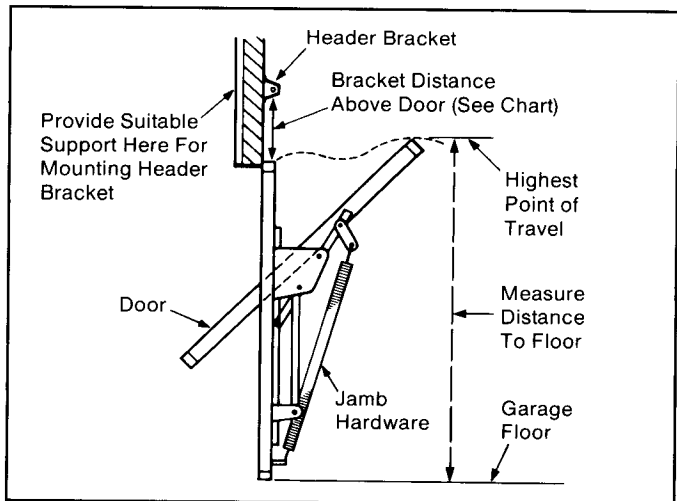

Figure 22. Finding High-Rise Point.
Step 2: Establish the high-rise point of the door. That is its highest point of travel when it opens or closes. See Figure 22 on page 10. To establish this point, open the door and measure the distance between its highest point of travel and the floor. Next, measure the height of the door. The difference is the door rise.